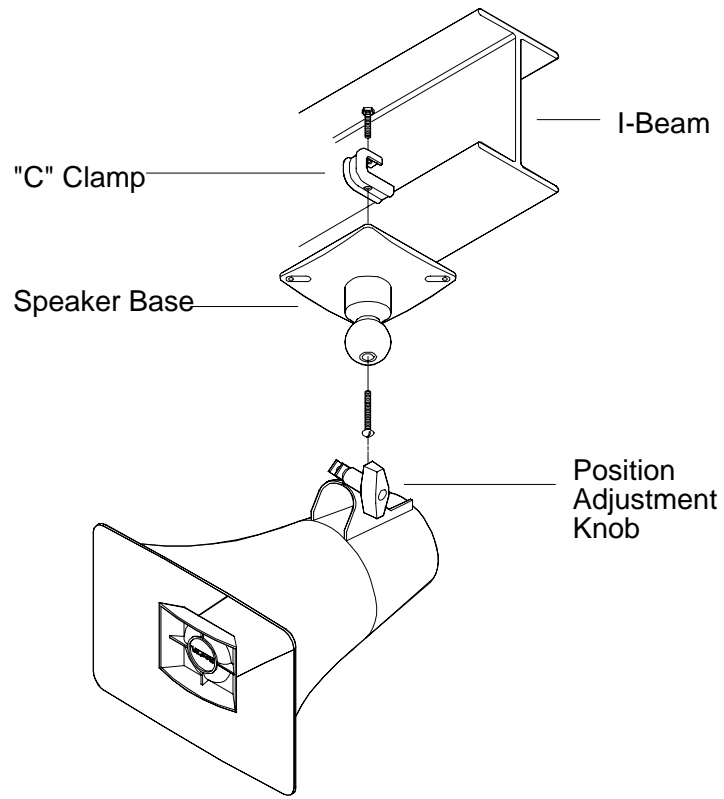

Figure 1 - Mounting to a Beam with a "C" Clamp
- A "C" clamp is provided with the horns to allow mounting to a beam. Place the bolt through the hole in the bottom of the base to secure the "C" clamp to the beam (See Figure 1).